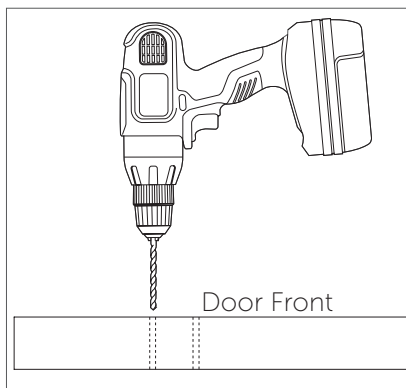

Figure 2
6. Drill two pilot holes all the way through the door for each hanger using a drill with an 1/8" drill bit (Figure 2).